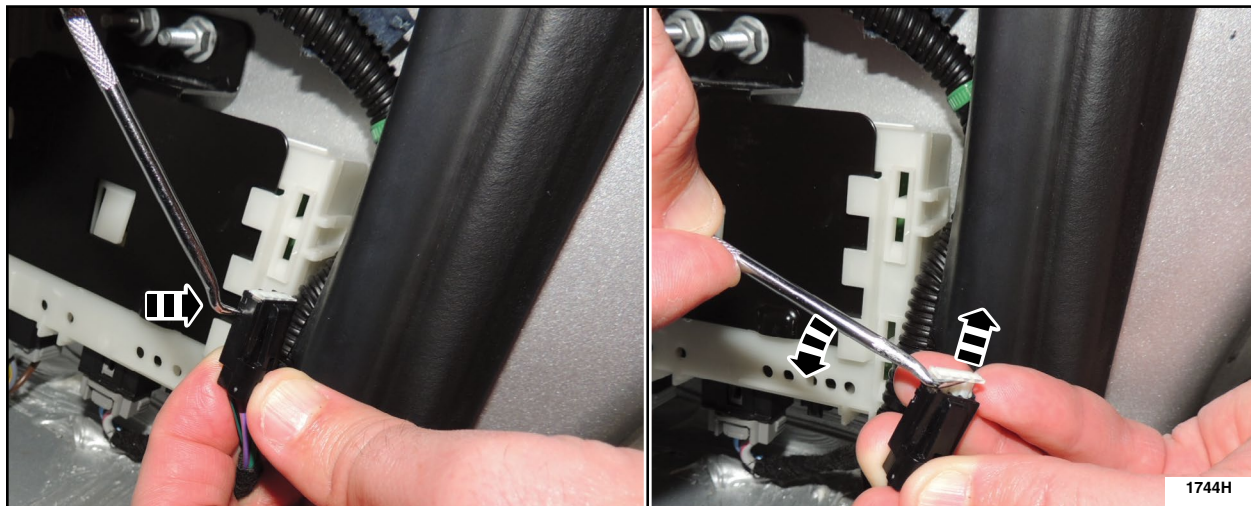

FIGURE 9
2. Using a small pick tool, push in and up to release the C3548D electrical connector insert tabs on the side of the connector and then pry up on connector face insert to remove the insert. See Figure 9.